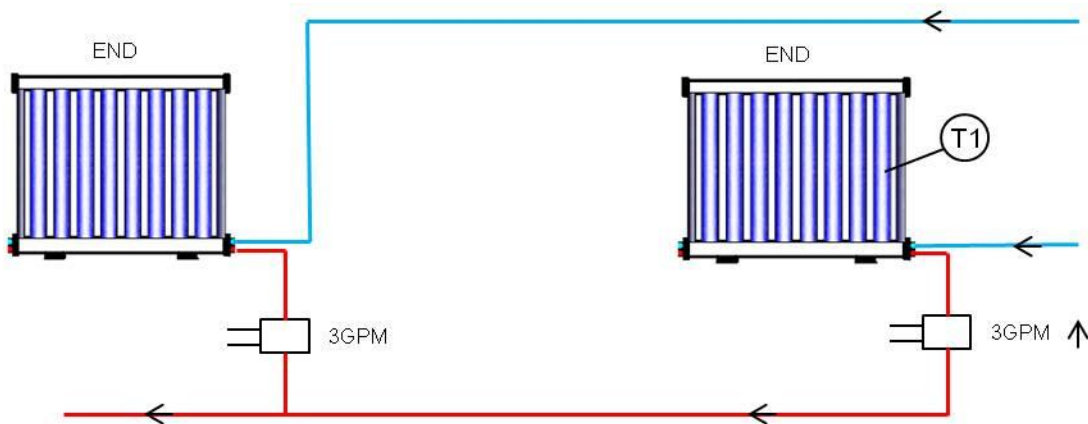

Figure 4.3: Parallel connection of multiple panel installation.
4.2.2 **Parallel Connection:** If a project requires more than 4 collector panels or greater than 3 GPM system flow, the collectors must be installed in a parallel configuration, as shown in Fig. 4.3.